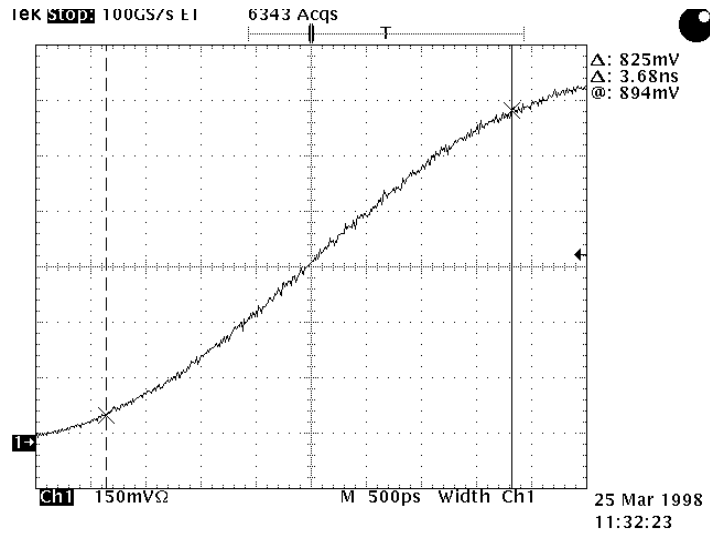
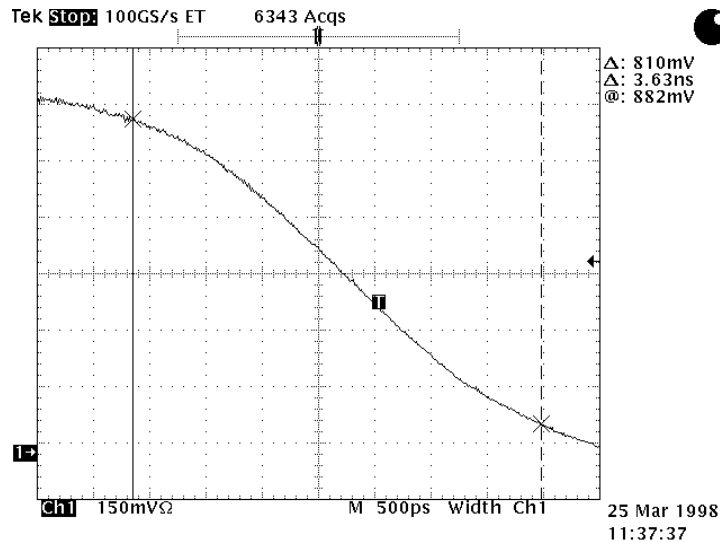

Figure 6-2. Positive Rise Time Measurement
Figure 6-3. Positive Fall Time Measurement
- Select the split-dot (vertical pair) cursors. Move one cursor to 10% of $+V_{OUT}$ on the rising edge of the waveform and the other cursor to 90% of $+V_{OUT}$ on the rising edge as illustrated in Figure 6-2 and Figure 6-3.
Note: The rise time (Δt) in Figure 6-2 is measured to be 3.68 ns.
Note: The fall time (Δt) in Figure 6-3 is measured to be 3.63 ns.